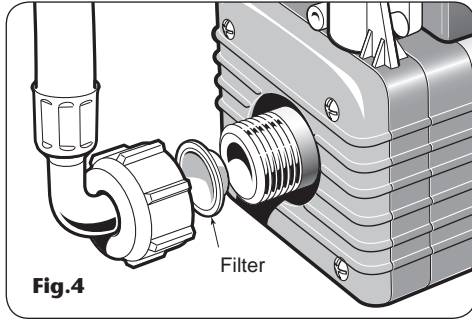

Fig.4
- c Connect the inlet flexible connectors to the inlet ports of the pump ensuring the filters are in position on the inlet sides (**fig.4**).